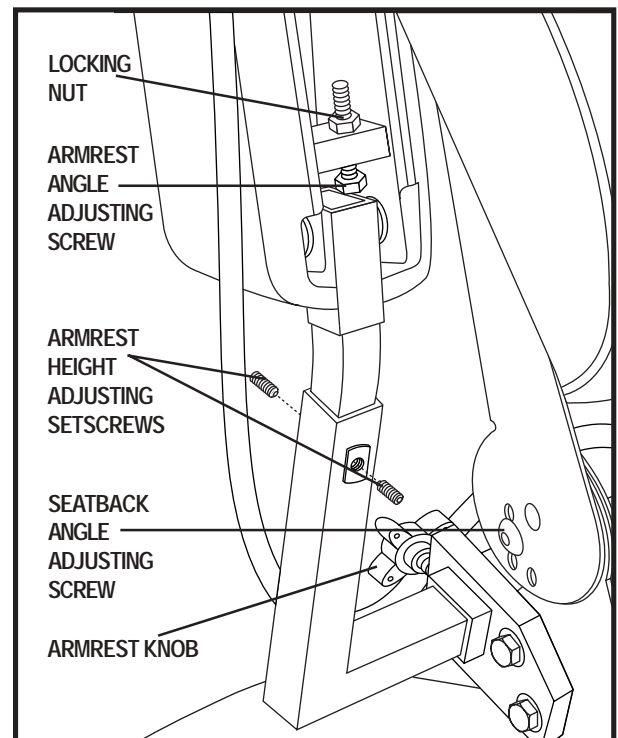

Figure 18. Seatback Angle Adjustment
If your power chair is equipped with a reclining seat, you can adjust the seatback angle with the seatback release lever. The lever is located on the right side of the seat base. See figure 18.
1. Remove the seatback angle adjusting screw from each seat hinge. See figure 18.
1. Locate the armrest knob on each side of the armrest receiver bracket. See figure 18.
1. Lift the armrest straight up so that it is perpendicular to the floor. See figure 18.
1. Loosen the setscrews on the armrest See figure 18.